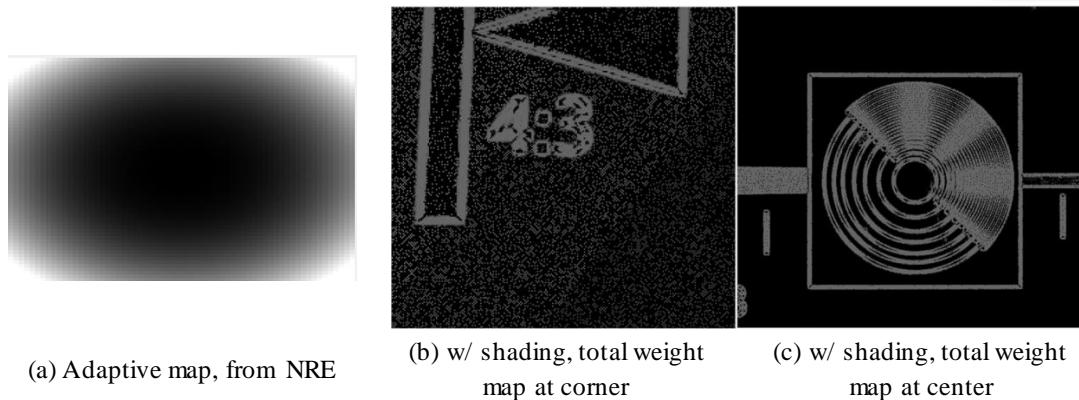

Fig. 5-117 The example tuning for Outlier weighting.
- In general, there is usually more detail in the center of the image, and the image may be dirtier around it. So, the outlier weight may be weaker at the center and stronger around it. As shown in Fig. 5-117.